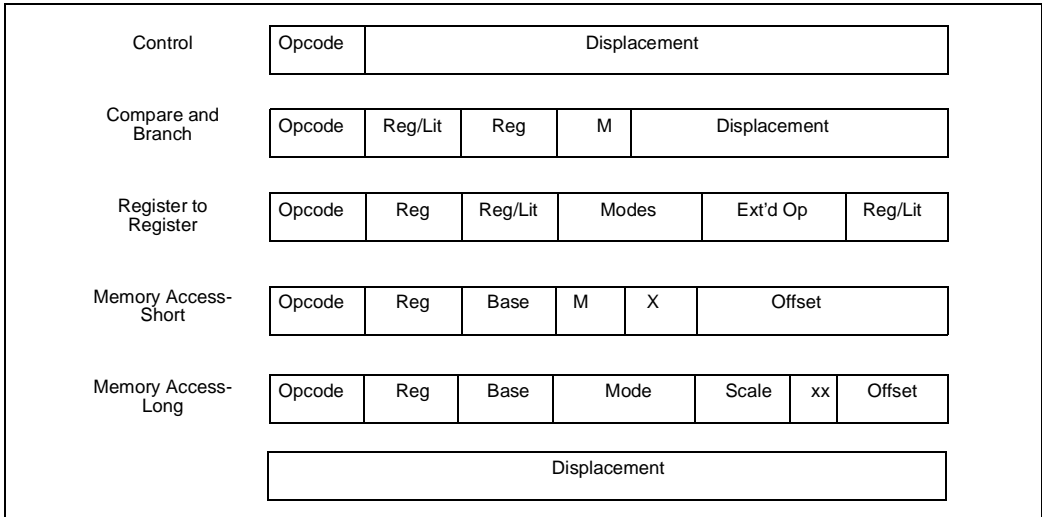

Figure 2. Instruction Formats
1. **Large Register Set.** Having a large number of registers reduces the number of times that a processor needs to access memory. Modern compilers can take advantage of this feature to optimize execution speed. For maximum flexibility, the 80960MC provides thirty-two 32-bit registers. (See Figure 2.)